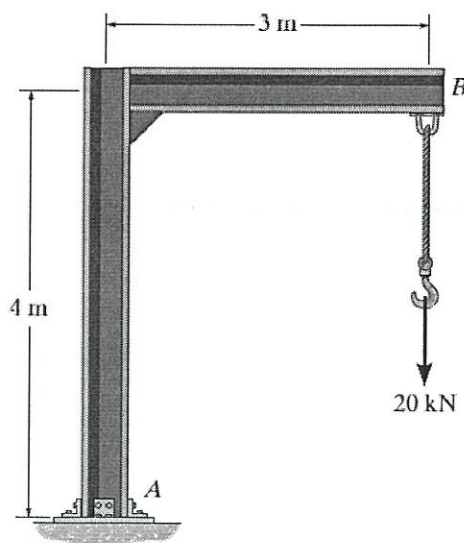

Figure Q6
- Q6** The **Figure Q6** shows the pipe assembly is fixed at A.